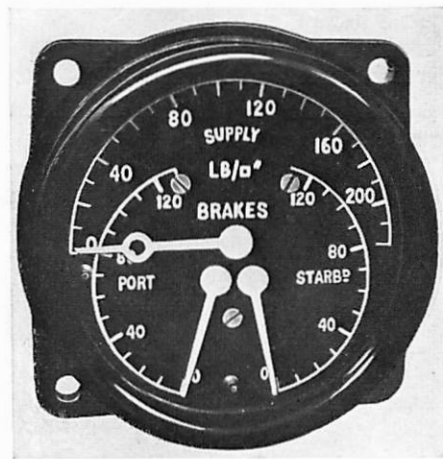

Fig. 5. Air Supply and Brake Pressure Gauge.
15. An air and brake pressure gauge consists of three direct-acting Bourdon tube gauges mounted in the same case. The largest of the pointers, at the top of the gauge (Fig. 5), shows the air supply pressure, whereas the two lower pointers indicate the pressure to each wheel brake.